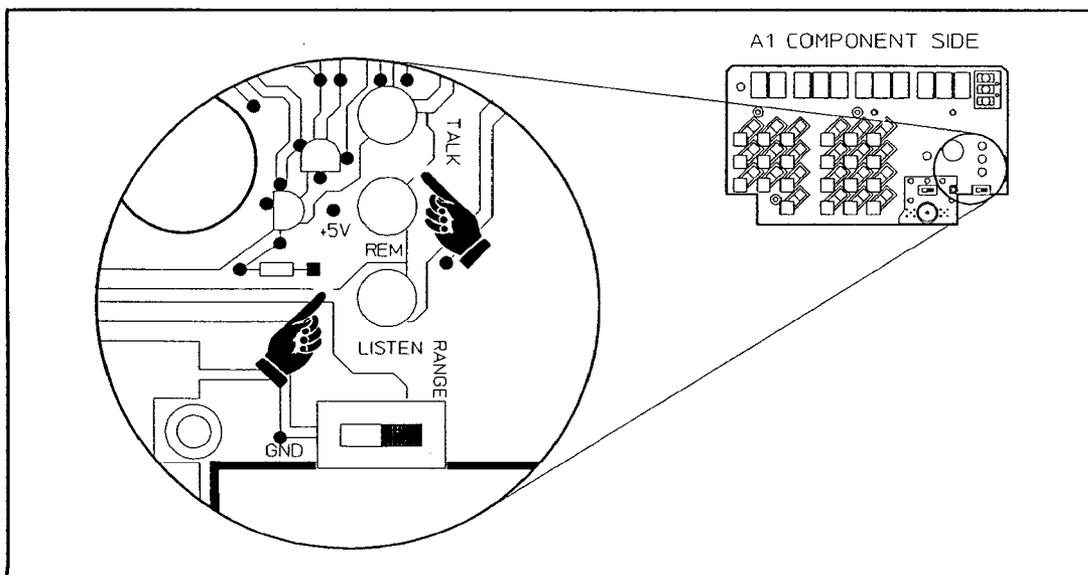

Figure 2. Location of Trace Cuts on Revision E A1 (Front Side)
2. You must cut two traces on the front side of the A1. The location of the two cuts are circled on *Figure 2*. The first is to the left of the LISTEN LED, between the cathode of a diode and the words "LISTEN". The second is between the words "TALK" and "REM".